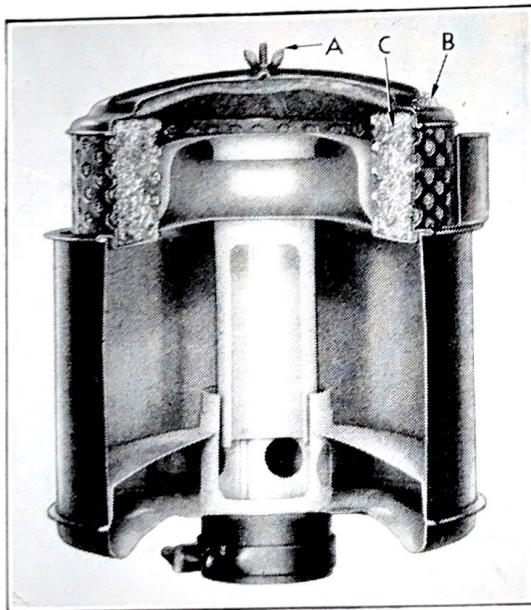

Figure 10
The **Oil-wetted** type air cleaner, illustrated in Fig. 10, is standard equipment on all models. The filter unit (C) should be removed and cleaned at least every 2,000 miles for normal operation and more frequently if local conditions warrant.